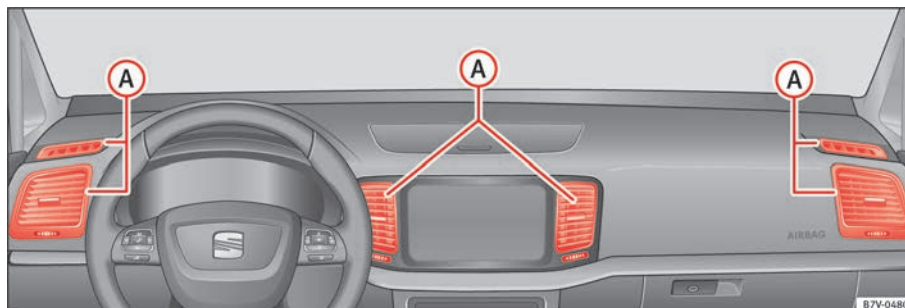

Fig. 124 Air vents in the instrument panel.
Never close the air vents => fig. 124 (A) completely to ensure heating, cooling and ventilation inside the vehicle.